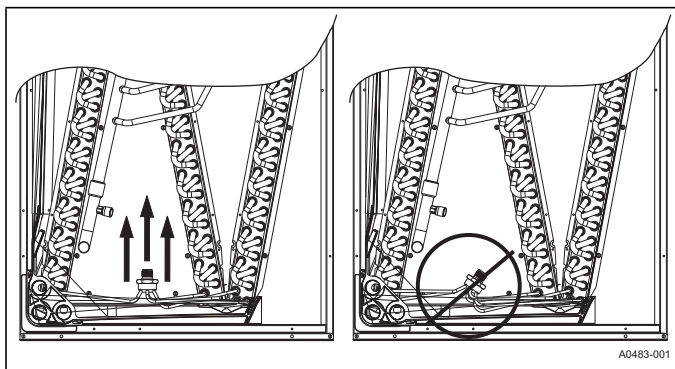

FIGURE 5: Recommended Distributor Adjustment
2. Distributor position must be adjusted to allow the preformed liquid line assembly to properly line up with the hole in the tubing access panel. Raise the distributor body approximately 2" toward the top of the coil or what would be the top of the coil if coil was in the upflow position. See Figure 5. Adjust as necessary.